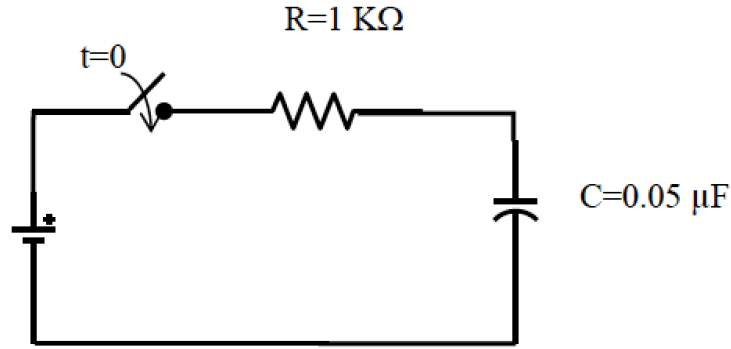

Fig. L2.2 A simple RC circuit
In this part, you will construct a circuit based on Figure L2.2 to understand the charge and discharge of a capacitor, and time constant. Please follow the following steps.
1. Choose the resistor and capacitor based on the values in Fig. L2.2. Construct the circuit based on a breadboard.